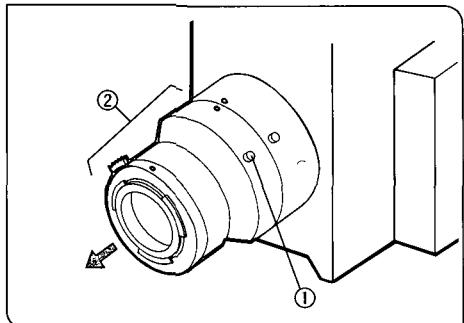

Fig. 113
3 Attaching the Video Adapter to the SLR Port (Figs. 113,114)
1. Using the Allen screwdriver, loosen the two clamping screws ① holding the intermediate body of the OM adapter on the SLR port. Remove the front section ② of the adapter. (Fig. 113)